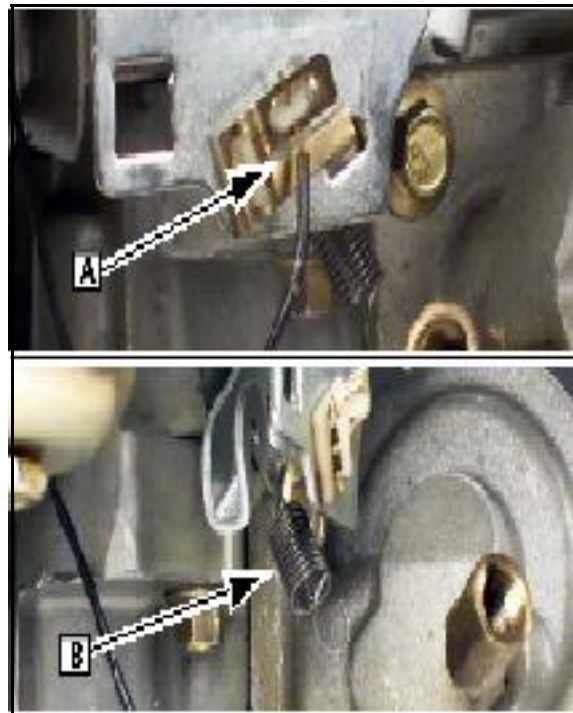

Fig. 11
11. Disconnect stop switch wire ([A]) and return spring ([B] Fig. 11) from governor lever.
4. Reinstall stop switch wire and governor lever return spring (Refer to Fig. 11).